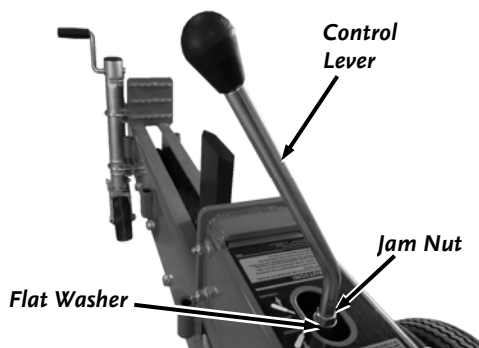

Figure 16
26. Remove the Nut and Flat Washer from the Control Lever threads and reinstall the Nut all the way onto the threads (**Figure 16**).